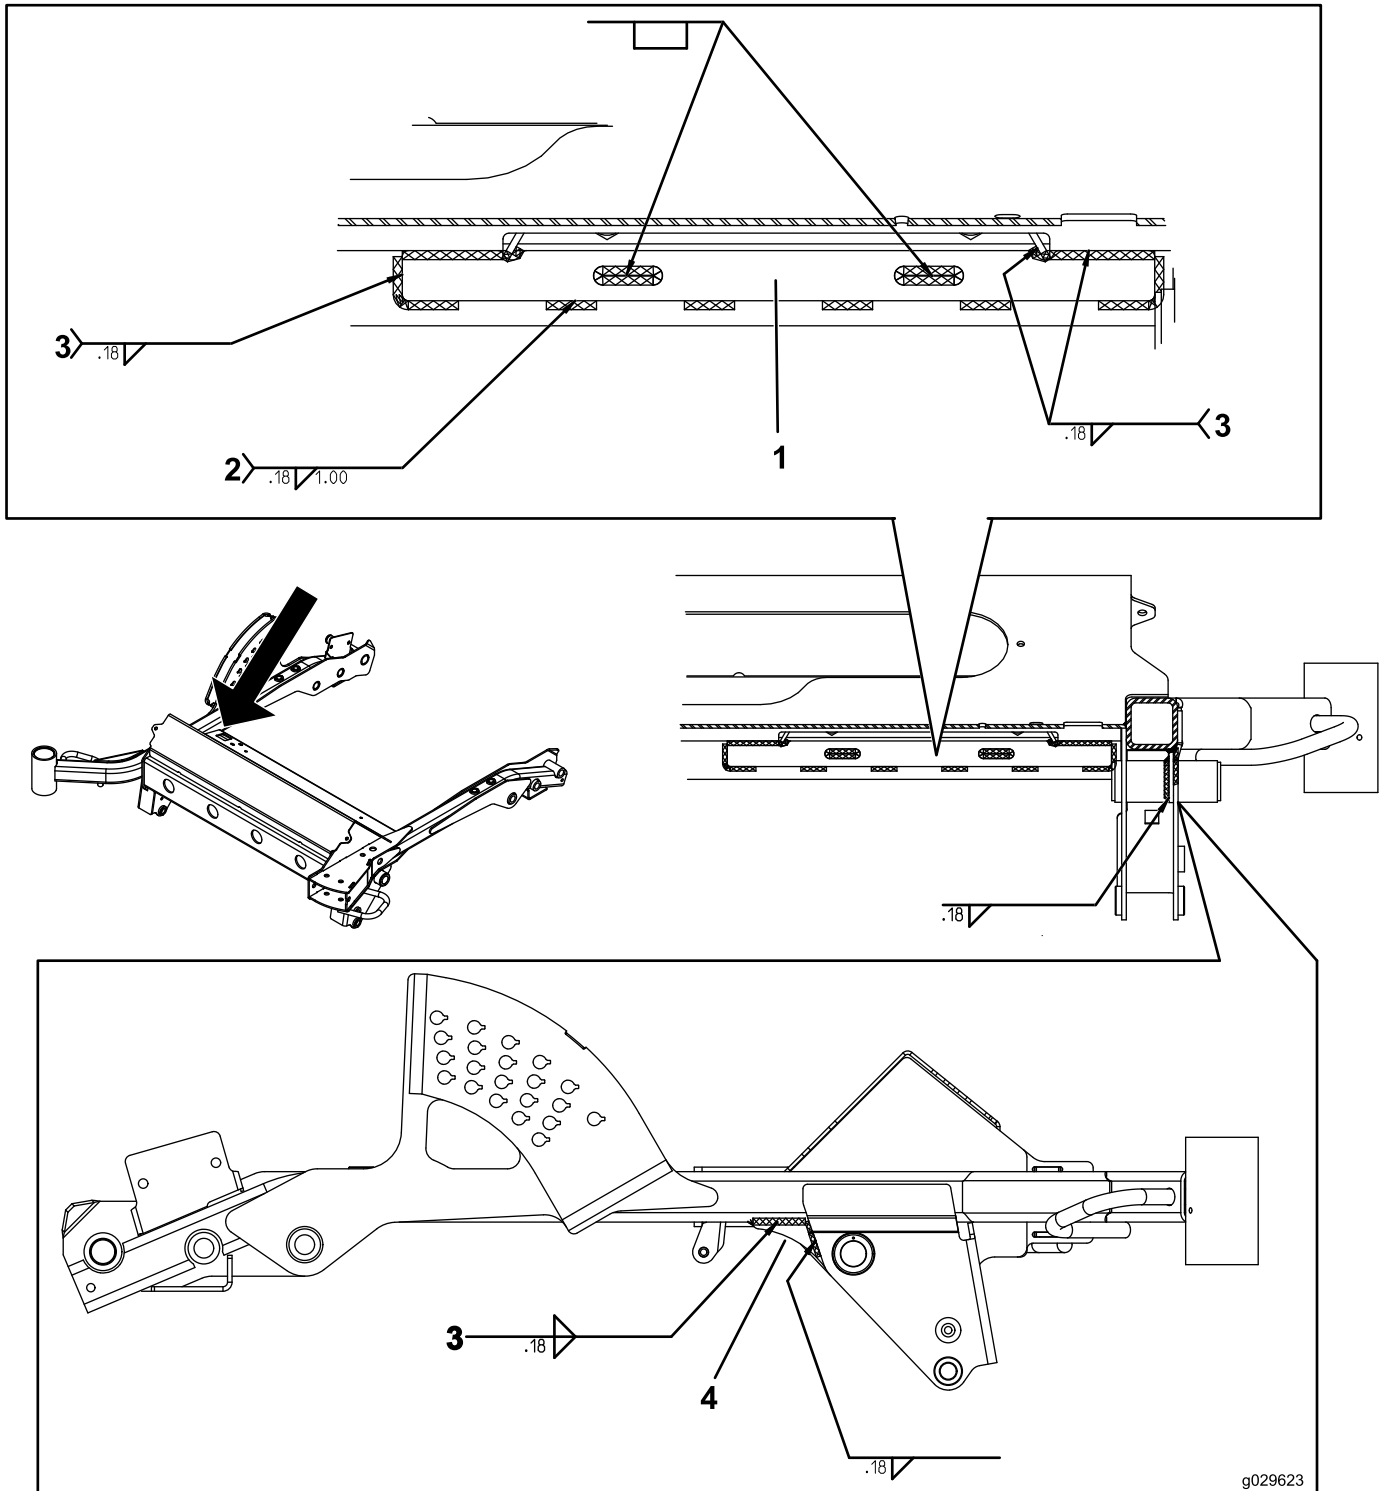

Figure 4
2. Sand off the paint in the areas to be welded to achieve good weld penetration (Figure 4).
3. Clamp the plates to the frame and weld according to the diagrams in Figure 4.